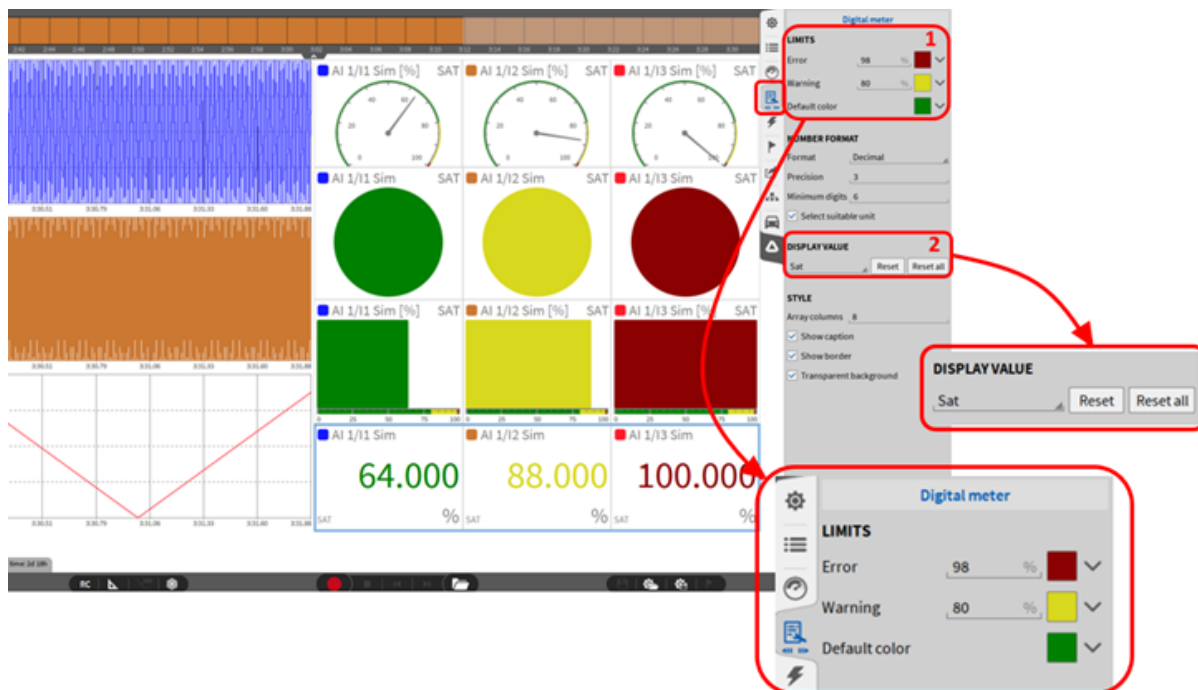

Fig. 8.106: Saturation visualization of channels
After adding one of the previously listed instruments to the measurement screen, the “Sat” (saturation) mode must be selected as the display value in the settings of the respective instrument. (see ② in Fig. 8.106 ). By pressing the “Reset” button, the selected instrument will be reset, by pressing “Reset all”, all saturation displays will be automatically reset (instruments other than the selected instrument too). After selecting the display value “Sat”, the colors as well as the limit values for the display can be changed if required (see ① in Fig. 8.106).